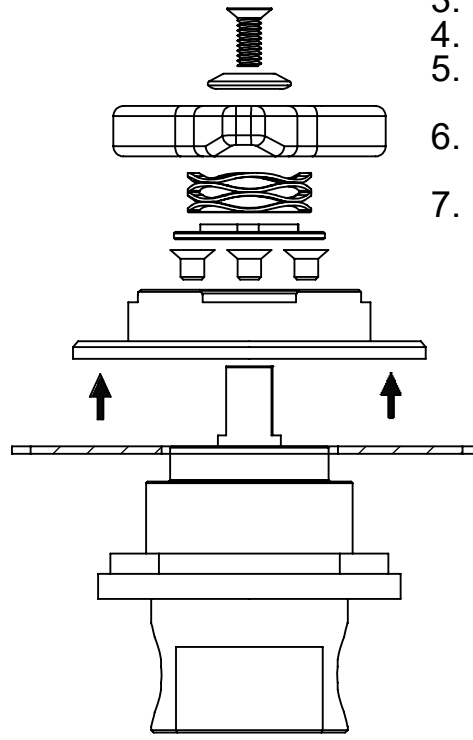

Fig 1
1. Remove Lever & Selector Plate assembly (Fig1).